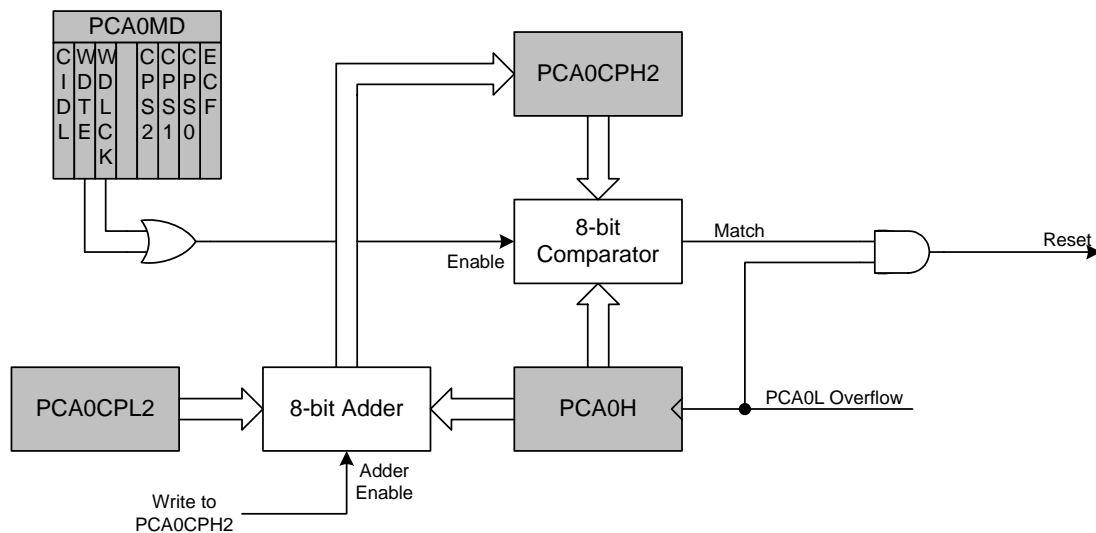

Figure 25.11. PCA Module 2 with Watchdog Timer Enabled
While the WDT is enabled, writes to the CR bit will not change the PCA counter state; the counter will run until the WDT is disabled. The PCA counter run control bit (CR) will read zero if the WDT is enabled but user software has not enabled the PCA counter. If a match occurs between PCA0CPH2 and PCA0H while the WDT is enabled, a reset will be generated. To prevent a WDT reset, the WDT may be updated with a write of any value to PCA0CPH2. Upon a PCA0CPH2 write, PCA0H plus the offset held in PCA0CPL2 is loaded into PCA0CPH2 (See Figure 25.11).